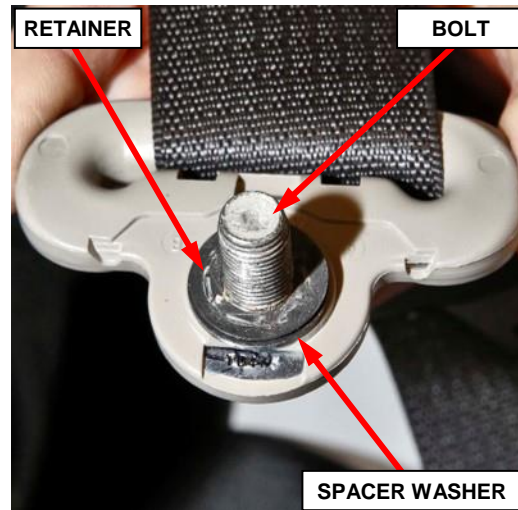

Figure 41 – Turning Loop Bolt
62. Remove and **DISCARD** the bolt retainer and bolt from the seat belt turning loop, save the spacer washer for reuse (Figure 41).